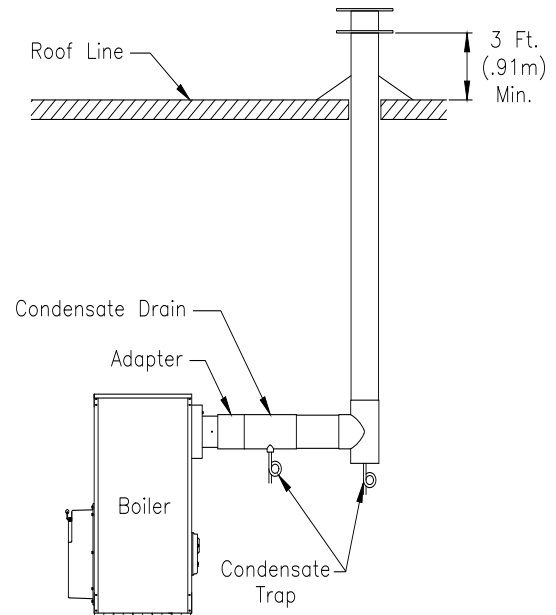

Figure 3c: Typical Category IV/Positive Vent Pressure Stub Venting with Rear Outlet
1. Overview: Vent pressure is positive and flue products are likely to condense in vent. Boiler operates with positive overfire pressure. See Figures 3c and 3d for typical stub vent applications.